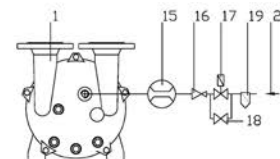

Fig. 8 Example of operating liquid connection
- open the bypass valve about 20 seconds to ensure operating liquid flowing into the pump (→ Fig8, Page6).
- Start up the pump and check operating liquid flow. If necessary, regulate liquid flow by the control valve (→Fig8, 16). Volume flow meter (→Fig8.15) is used to obtain standard operating liquid flow.
- If the pump needs to be controlled automatically (installed as Fig8 showing), the operating liquid flow is controlled by solenoid valve(→Fig 8.17) which is governed by motor.